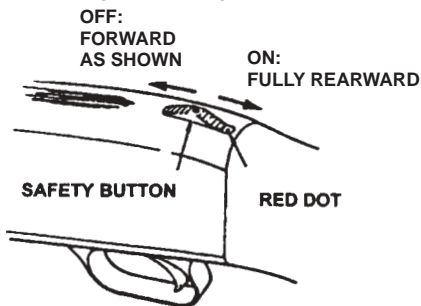

Fig. 2
The safety button is located on the top rear portion of the receiver (Fig. 2) and must be manually moved to the desired position by the shooter.
**To put the safety in the “ON” (SAFE) position, the safety button must be moved fully rearward into the safety detent.** The button will now cover the red dot. The red dot is a training aid used only to show the direction of the “ON” (SAFE) position and should not be used as an indicator that the safety is “ON” or “OFF” (Fig. 2). Moving the safety button forward toward the muzzle of the shotgun will put the safety in the “OFF” (FIRE) position.
Move the safety button fully rearward to the "ON" (SAFE) position (Fig. 2).
Before loading, move the safety button fully rearward (Fig. 2) to the “ON” (SAFE) position.